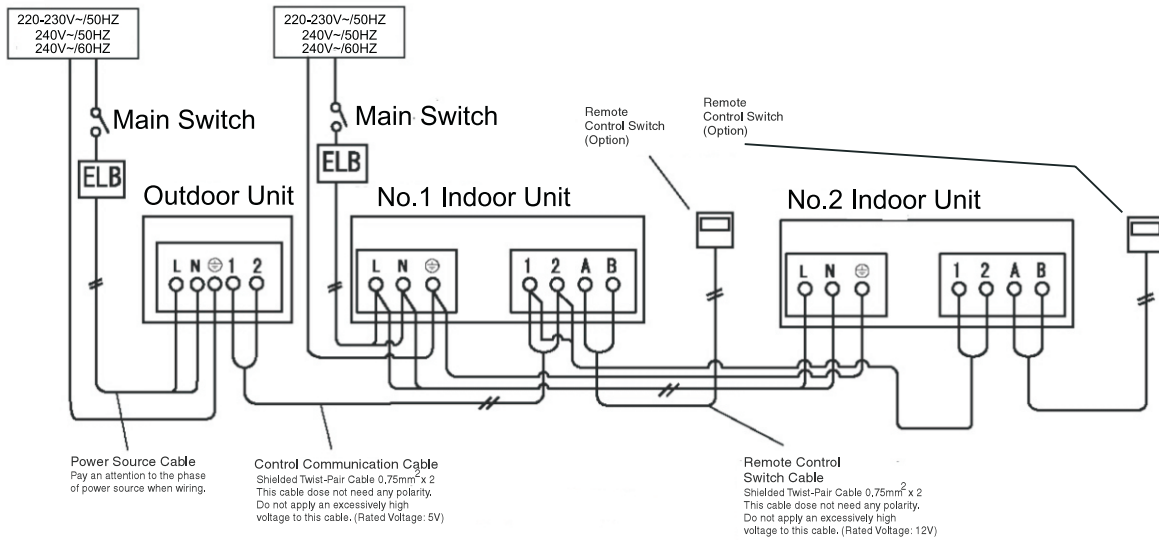

Fig. 6.2 Wiring Connection for Indoor & Outdoor (1 PHASE)
- (1) Connect the power supply wires to the terminal board in the electrical control box of both outdoor unit and indoor unit. And connect the earth wire to the electrical control box of outdoor unit. In addition, connect the earth wire to earth screw in the electrical control box of indoor unit. Refer to Fig. 6.2.
- (2) Connect the wires between the outdoor and indoor units to terminals 1 and 2 on the terminal board.